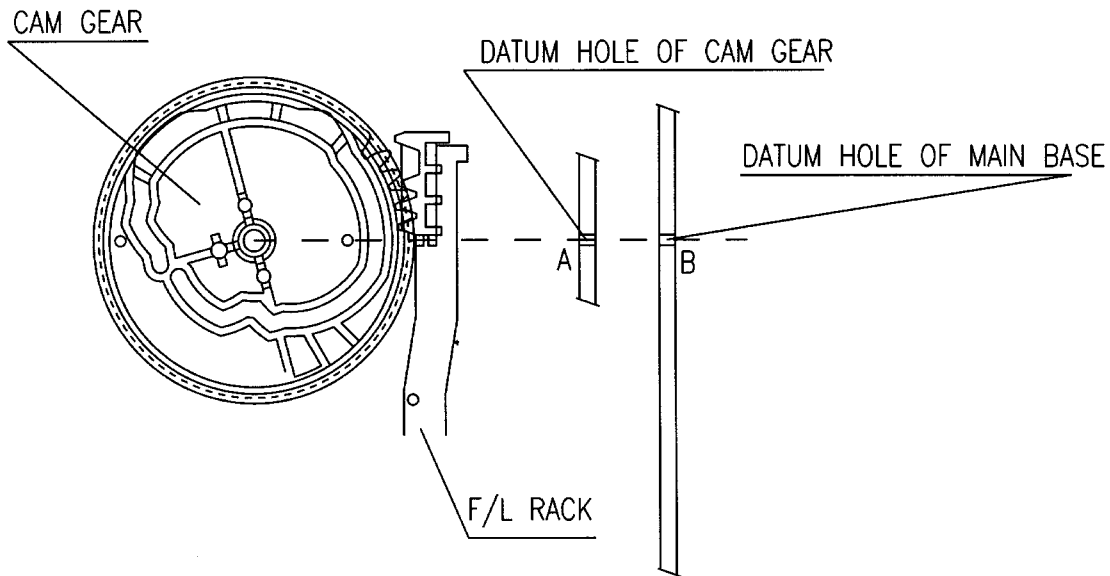

Fig. 1 Mechanical Checks/Cam Gear and F/L Alignment
1. Make sure that the datum hole of the cam gear "A" is aligned with the hole "B" in the main base in the EJECT mode. (Fig. 1)